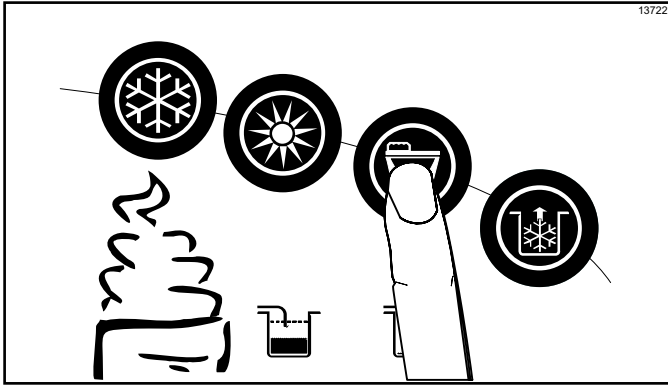

Figure 6-52
2. With a pail beneath the door spout(s), open the draw valve and press the Wash key . (See Figure 6-52.)